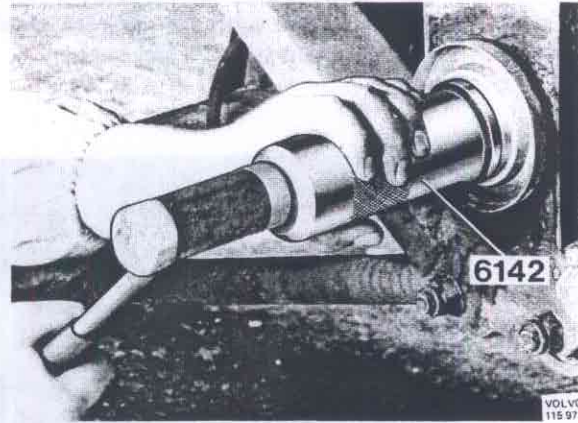

Fig. 76-12. Installing the inner bearing race
3. Place the dust protective plate in position and fit the inner bearing race with sleeve 6142. Tap the inner bearing race until it bottoms, see Fig. 76-12.